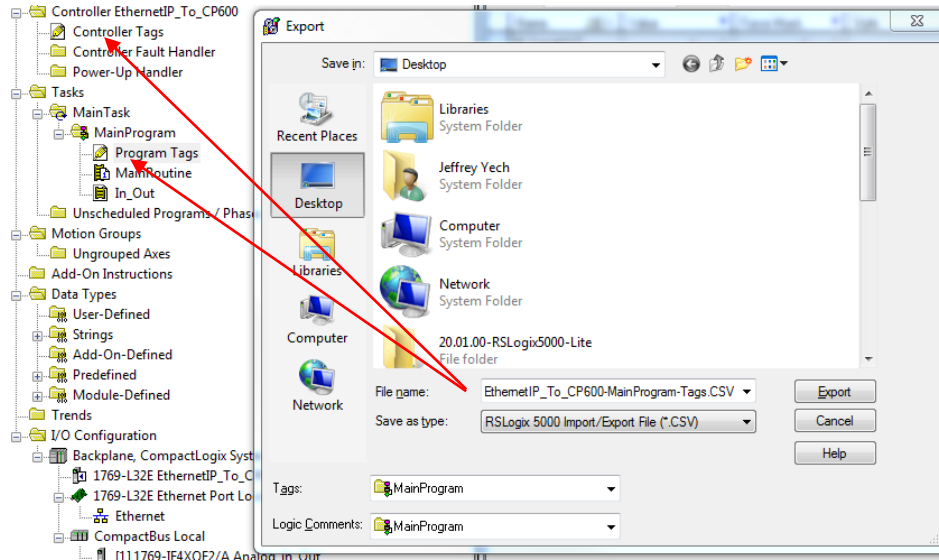

Figure 1- Export tags from the RSLogix 5000 project
- 3.3. Export the tag file as a .csv file as shown in figure 1 below.